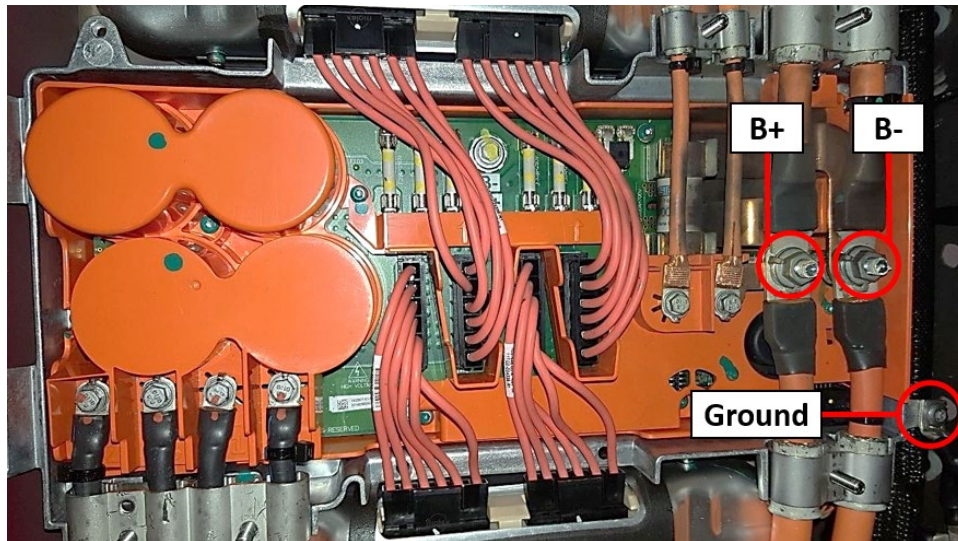

Figure 6
- c. Use a multimeter to check voltages across the battery/rear drive unit High Voltage cable terminals and ground (Figure 6):